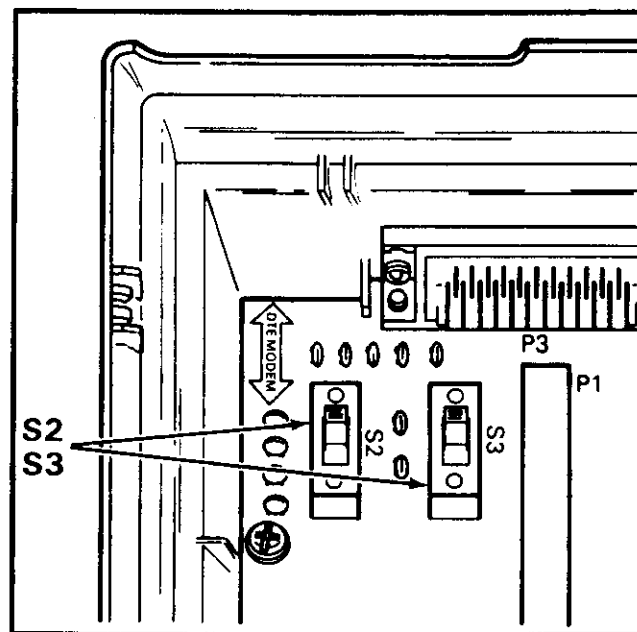

FIGURE 43—DIUB PCB
- 2) Carefully separate the two halves of the DDIU-MA in order to expose the **S2** and **S3** (DTE/MODEM) switches located on the upper left corner of the DIUB PCB (Figure 43).